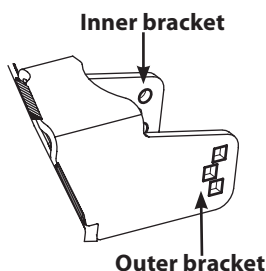

Figure 16
**NOTE:** On the left side and right side deck gauge wheels, the shoulder screw must be installed from the outside of the tractor inward, through the square hole on the bracket. On center deck gauge wheels (if equipped) the shoulder screw side of the assembly can be installed from either direction. See Figure 16.